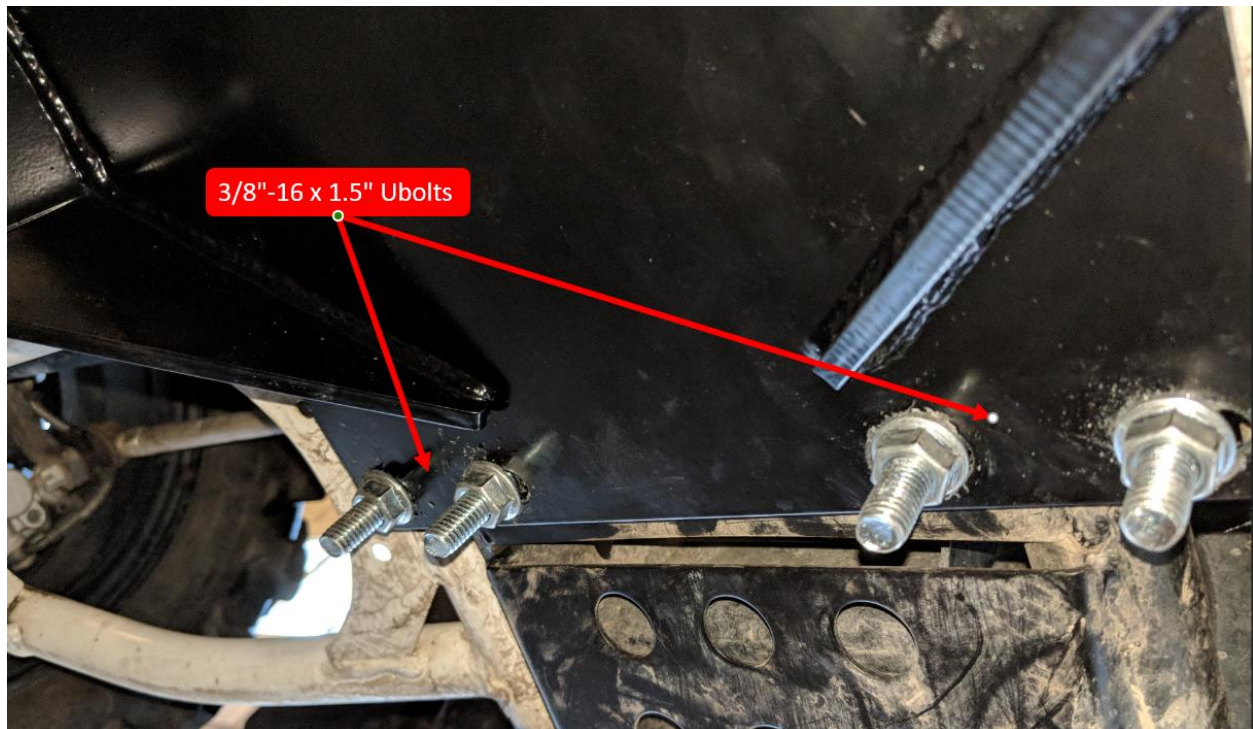

Figure 4
4. Lift the back of the MA11767 Main Mounting Plate into place and secure with 3/8"-16 x 1.5" ID U-bolts and 3/8"-16 Serrated Flange Nuts as shown in Figure 4.